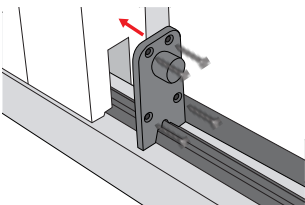

Figure 31: Bottom rail stop plate
Step 8 - Line up the rear side stop plate (bottom) and screw the plate in place as shown in Figure 31.